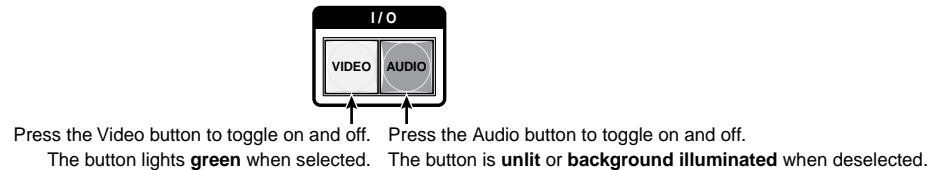

Figure 3-11 — Select video only
2. To select video only for the tie, if necessary, press and release the Video button and the Audio button (figure 3-11).